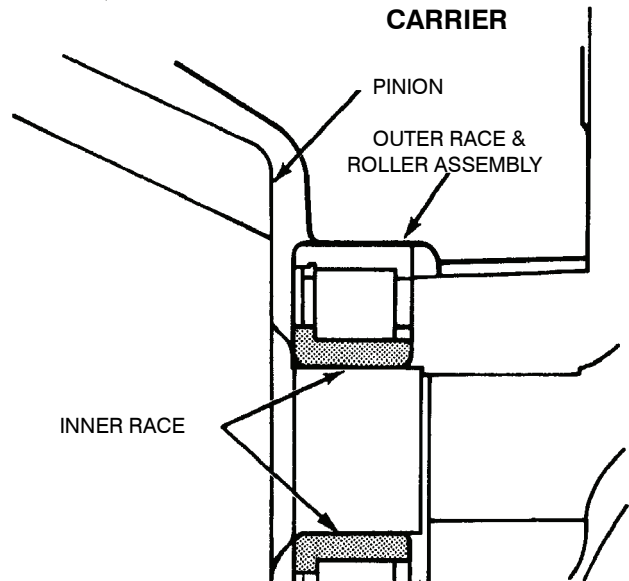

Figure 115.
- (4) Install Two-Piece Spigot Bearing Assemblies with the following procedure:
- (a) With a press or a soft mallet and sleeve, install the inner race of the spigot bearing on to the nose of the pinion. Use a sleeve of the correct size and press the bearing race until it is squarely against its shoulder on the nose of the pinion. Figure 115.